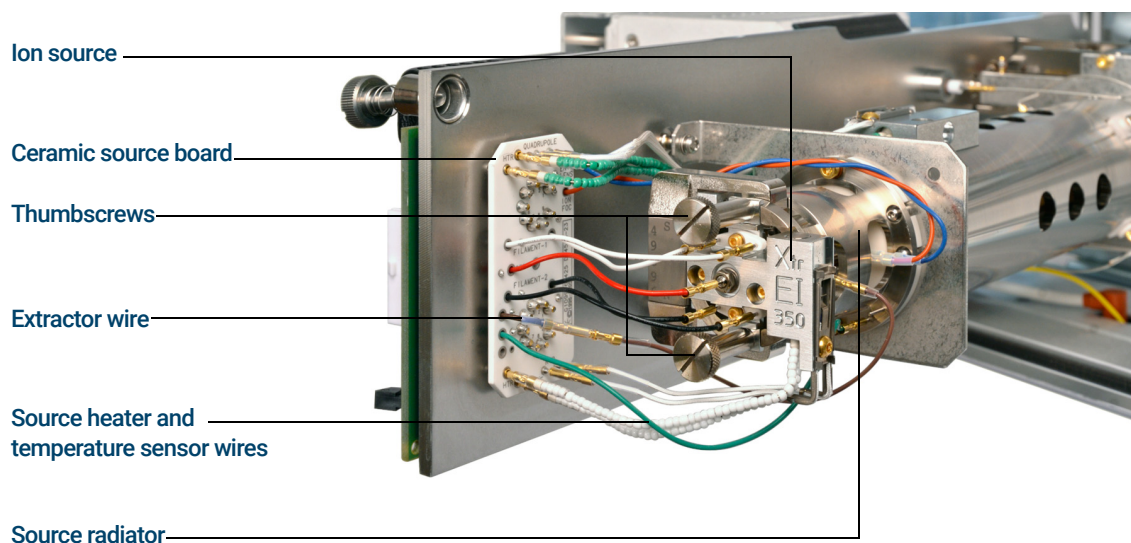

Figure 65. Installing the EI source
- 1 Slide the ion source into the source radiator. (See **Figure 65**.)
- 2 Insert and hand tighten the source thumbscrews. Do not overtighten the thumbscrews. (See **Figure 65**.)